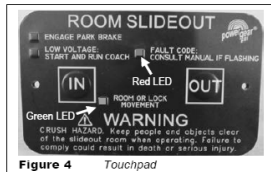

Figure 4 Touchpad
6. Press and hold the OUT button (Fig 4). To retract, press and hold the IN button. There will be a slight delay before the room begins moving.
The RED FAULT CODE LED (Fig 4) will flash a number of times corresponding to a specific fault code (refer to the Fault Code Chart).
The GREEN ROOM MOVEMENT LED (Fig 4) will flash GREEN a number of times corresponding to which motor has the associated fault.
- **MINOR** faults can be cleared by pushing and releasing the **IN** or **OUT** buttons on the wall touchpad (Fig 4).
1. Remove the touchpad (Fig 4) from the wall.